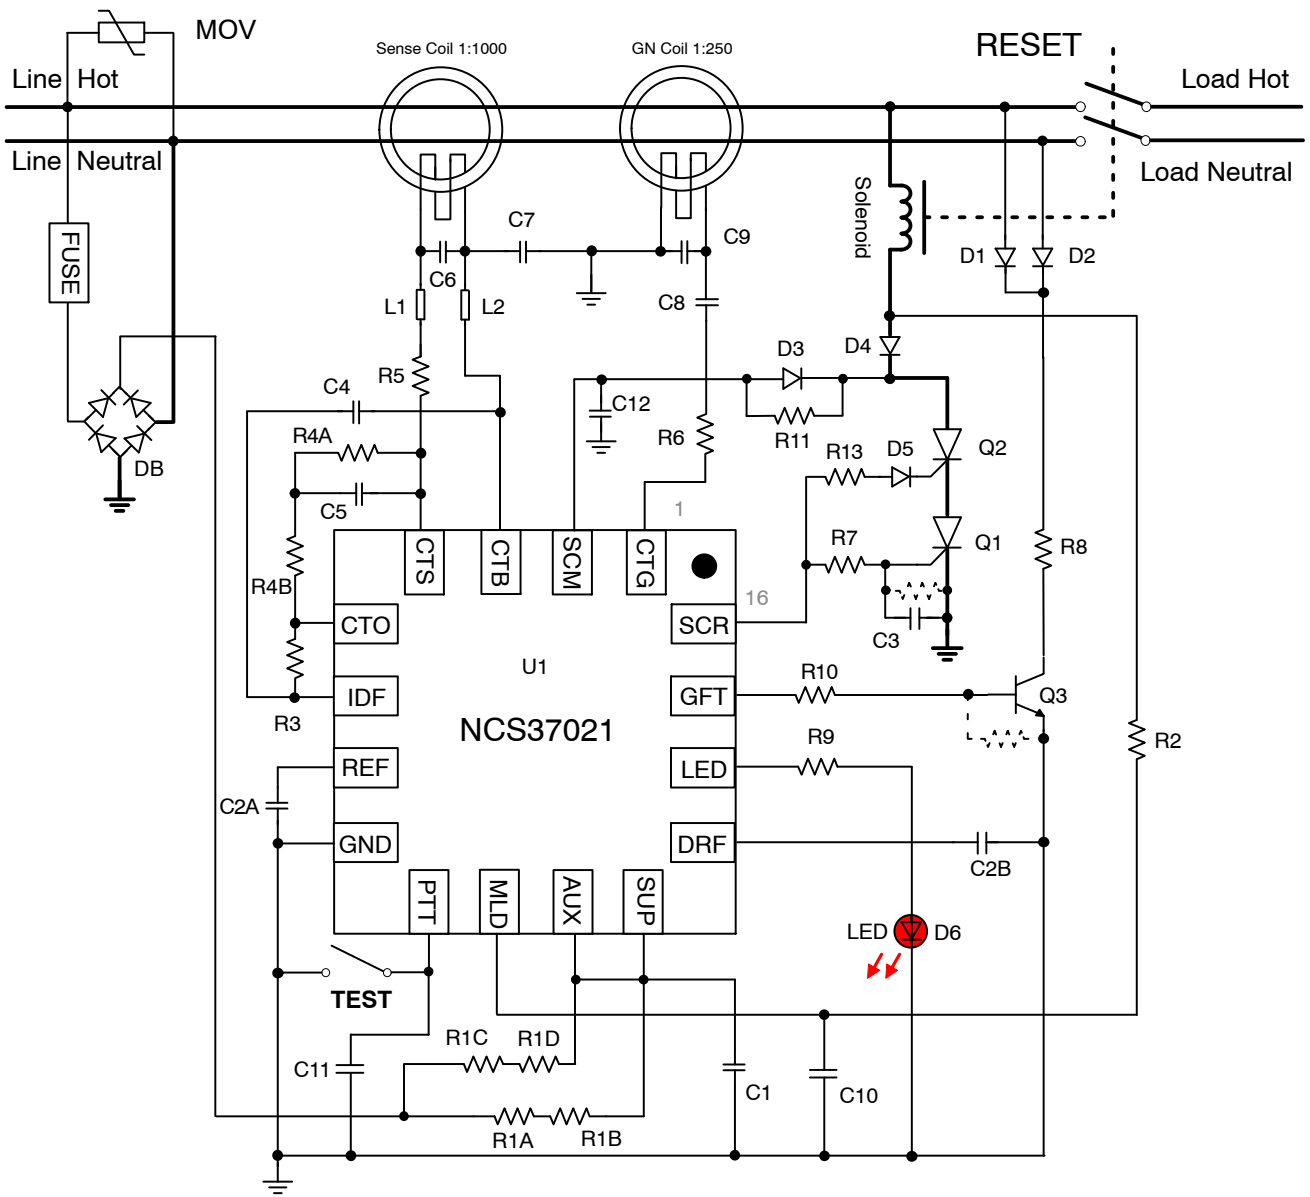

Figure 2. GFCI Receptacle Application Diagram
**Table 4. OPERATING RANGES** (Unless otherwise noted, ISUP = 3 mA, MLD input = 60 Hz, Refer to Figure 2)
| 1        | One bullet edit, one table 4 edit, replace figures 2 and 3, multiple edits table 5, text changes page 8 | 8/27/2025 |